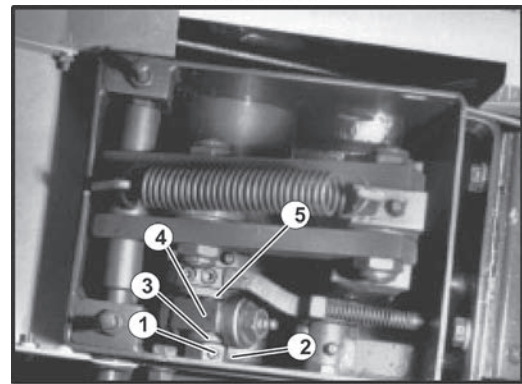

FIGURE 2
3. From the right side of the cut-off, remove set screws **1** and brass plugs from the adjusting nut **2**. Remove the adjusting nut **2**, washers **3**, yoke **4**, cam **5**, and thrust bearing. (Figure 2).